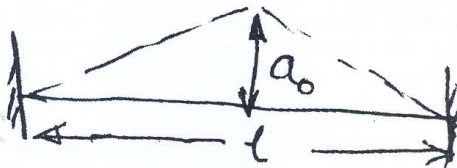

Fig.Q7(a)
- 7 a. A uniform string of length 'L' and large initial tension 'S' stretched between two supports is displaced laterally through a distance  $a_0$  at the centre as shown Fig. Q7(a) and released at time  $t = 0$ . Show that the equation of motion  $y(t)$  has only odd harmonics. (10 Marks)